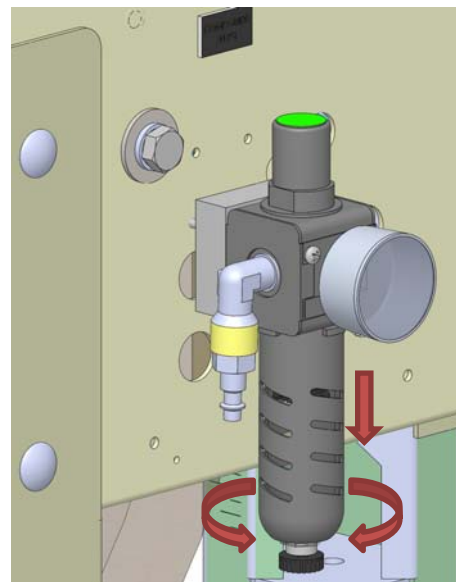

Figure-32A
1. To remove metal protective guard, rotate and pull down (**Figure-32A**).